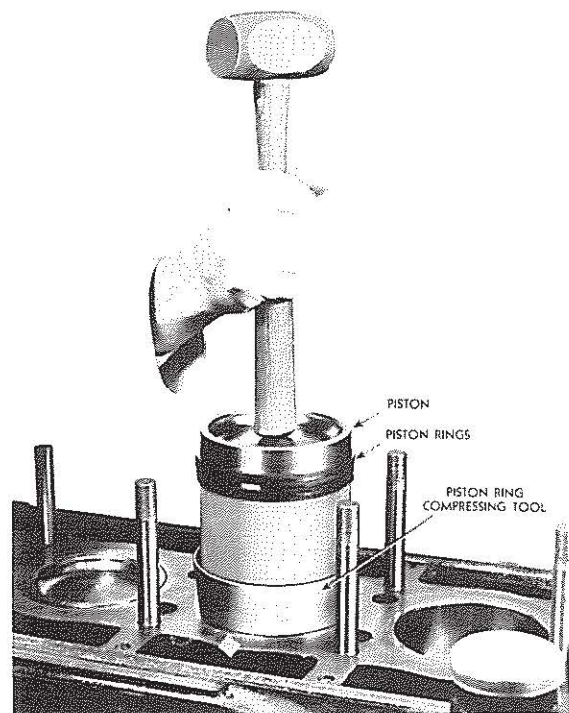

FIG. 17
1. Stagger the piston ring gaps around the piston, apply some clean non-corrosive engine oil to piston and rings, then slide the piston ring compressor tool over the lower end of the piston skirt with flared end toward top of piston. Fig. 17. Turn the piston and rod assembly so that the identification mark on lower end of the connecting rod is toward the blower side of the cylinder block. By tapping on upper end of piston with a wood block, drive the piston in the cylinder bore.